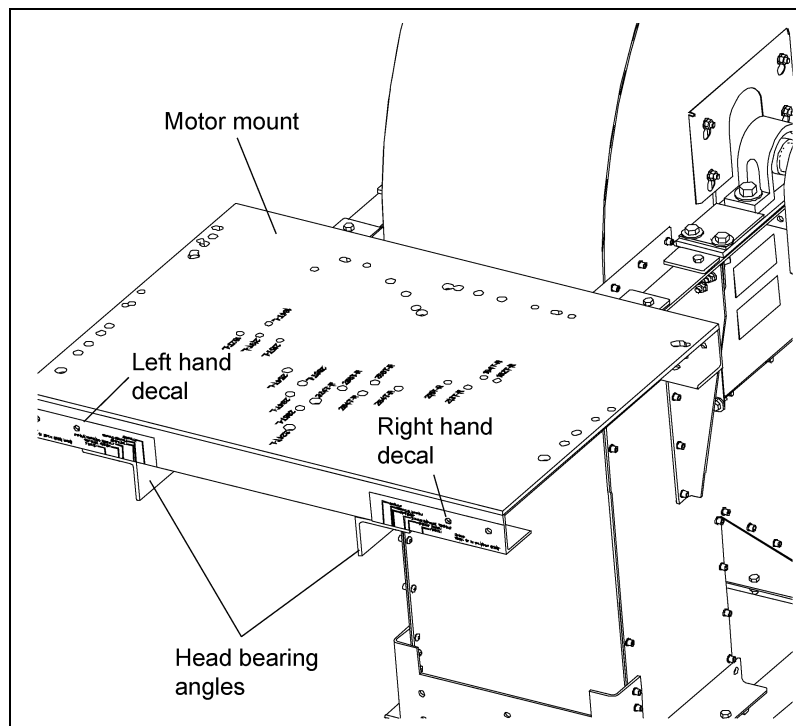
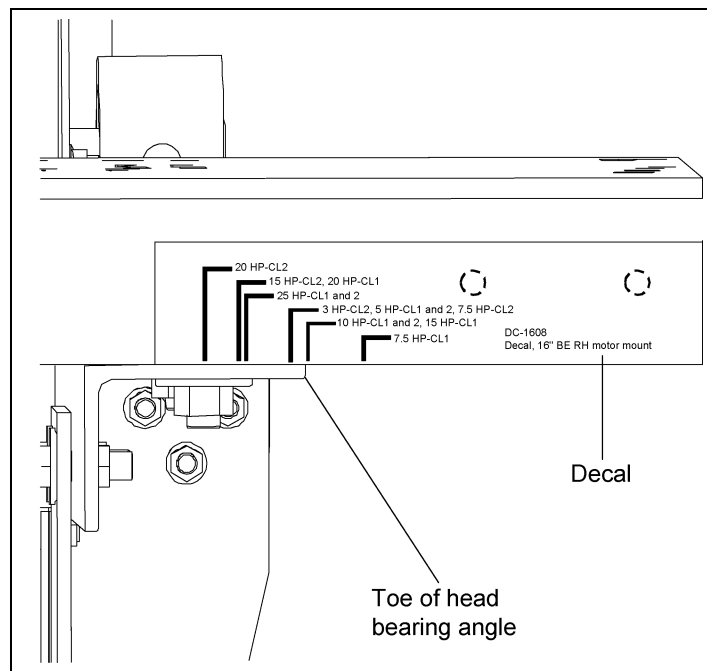

Figure 11A Motor Mount Plate
Figure 11B Right Hand Motor Placement Decals
The Figure 11A below and Figure 11B on Page 29 shown for a right hand application.
1. Locate the side of the motor mount which has two (2) decals affixed. (See Figure 11A.) One decal will have “L.H.” for left hand and one will have “R.H.” for right hand.
4. Slide the motor mount in or out while keeping the decal correctly aligned with the outside toe of the head bearing angle. (See Figure 11B on Page 29.) This will align the holes in the head bearing angles to the proper holes in the motor mount assembly.
5. Using the proper hardware, bolt the motor mount down to the head bearing angles. (See Figure 11A.)